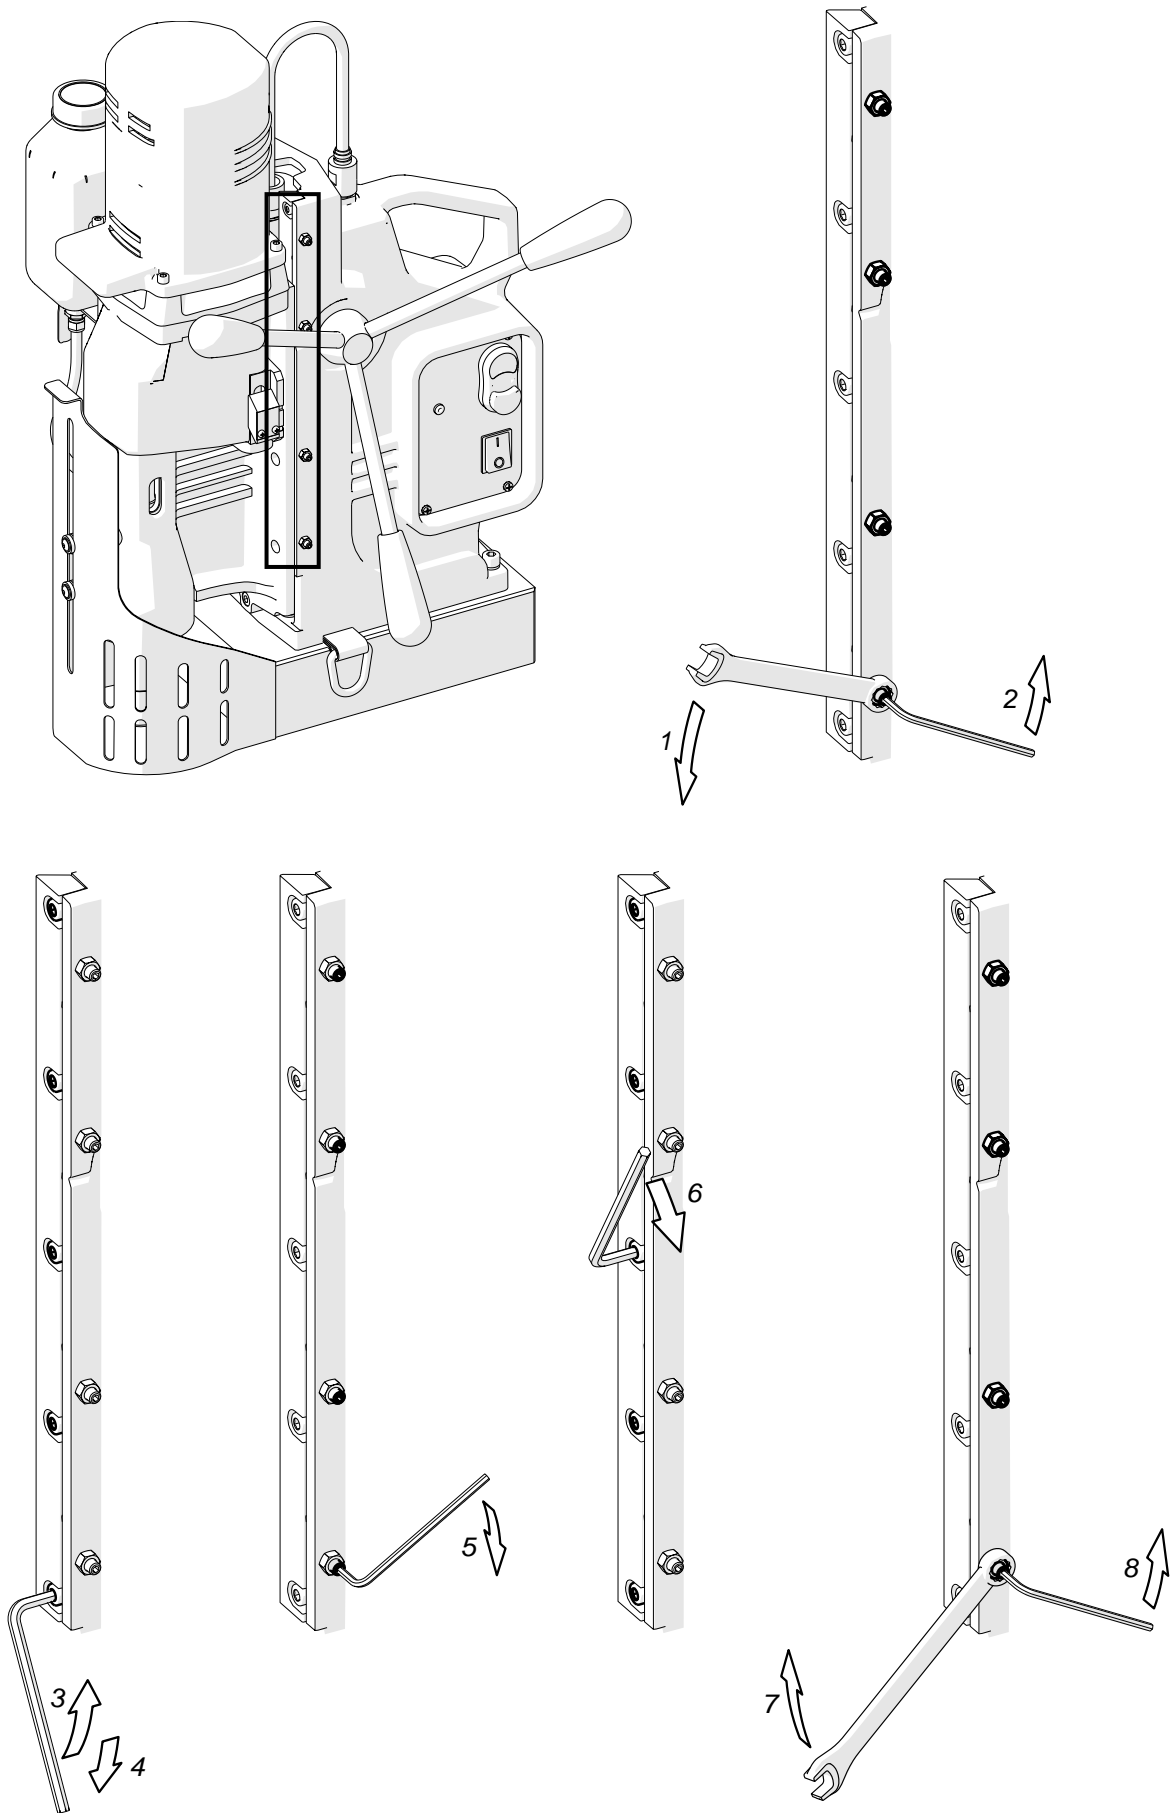

Fig. 8. Adjusting the gib clearance
To remove the excessive clearance, use the 8 mm combination wrench to loosen the nuts (1, Fig. 8), and then use the 2.5 mm hex wrench to loosen the set screws (2). Next, rotate the spoke handles to set the motor on such a level to access the gib screws through the holes, use the 4 mm hex wrench to loosen these screws (3), and then tighten (4) with a force enough to prevent the gib from being pushed out by the springs located inside.